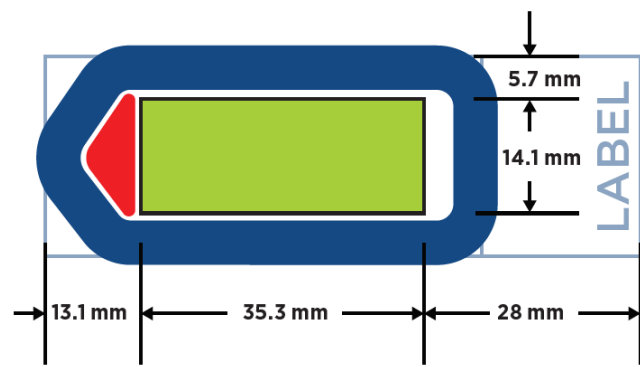

Figure 25: Slide dimensions
1. Tissue sections should be **5 μm** thick and mounted on **Apex BOND Adhesive slides**. Tissue sections must **fit within the white dots** marking the boundary on the Apex BOND slides, and be within the **Scan Area** (shown in green) (see Figure 25). Sections can be no larger than 35.3 mm long by 14.1 mm wide and should not overlap the slide gasket (shown in blue) or the Tip Calibration area (shown in red). If mounting multiple sections per slide, ensure that tissues are at least 2–3 mm apart and still fit within the Scan Area.